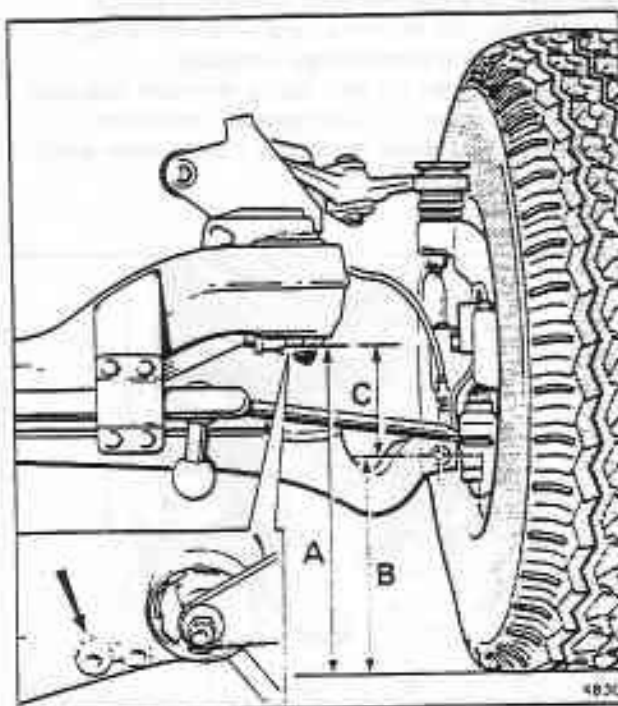

Fig. H6-1 Front height setting
When the suspension has been partially or fully dismantled, the standing height of the car should be checked. This height is the vertical distance measured between the machined locating pads on the underside of the front sub-frame and the centre line of the triangle lever ball pin carrier securing bolt (see fig. H6-1).
10. Measure the standing height from the level surface on which the car stands, to the face of the front sub-frame locating pads. These pads are situated on the underside of the sub-frame adjacent to the front mounts (see fig. H6-1 dimension A).
11. Measure from the level surface to the centre of the bolt fitted through the lower ball pin carrier (see fig. H6-1 dimension B).